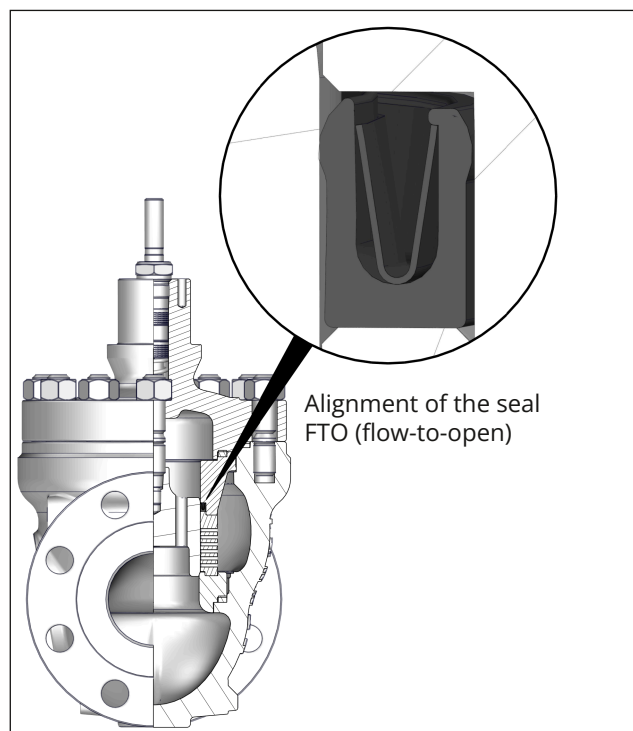

Fig. 35: Alignment of seal (45) on FTO cage
3. Insert a new spiral wound gasket (127) into the body (1) in the seat bridge area.
4. Place the seat (4) on the spiral wound gasket (127) in the body (1).
5. Insert the cage (424) into the body (1) and position it on the seat (4), while aligning the cage (424) within the valve body to ensure that the largest opening faces toward the valve outlet.
6. Insert the piston (5) together with the piston stem (36) upright through the cage (424) into the valve body (1) and position it on the seat (4).
7. Place a new seal (45) on the cylinder (463). Make sure the seal is properly aligned (see Fig. 35).
8. Place the cylinder (463) together with the seal (45) over the piston stem (36) on the cage (424).
9. Place a new spiral wound gasket (126) on the cylinder (463).
10. Insert a new spiral wound gasket (17) into the body (1).